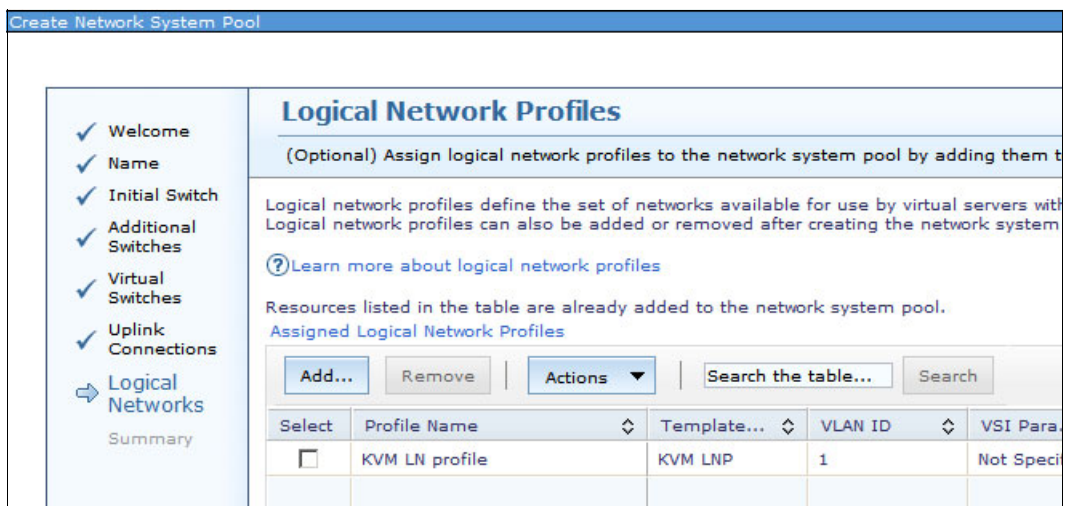

Figure 9-89 Create Network System Pool: Logical Network Profiles
13. The added profile is listed on the Logical Network Profiles page (see Figure 9-89). Click **Next**.